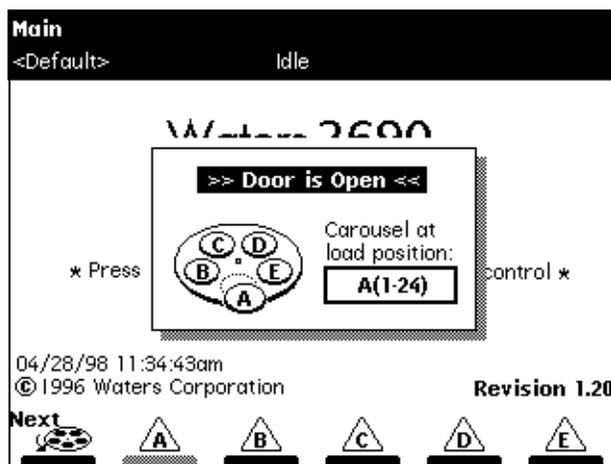

Figure 2-15 Door is Open Dialog Box
1. Open the carousel door. The Door is Open dialog box appears in the screen (Figure 2-15).